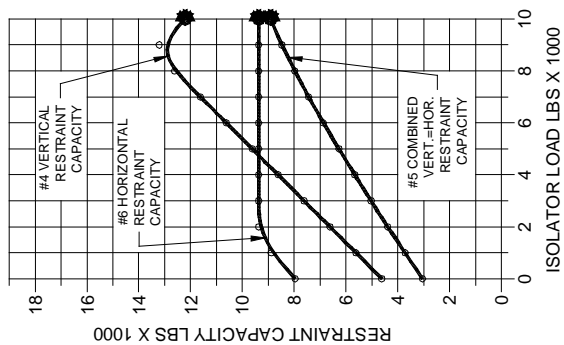

FIGURE 3
- 4.) THE HORIZONTAL RESTRAINT CAPACITY @ THE LOAD DETERMINED IN STEP 1 IS READ FROM CURVE #3 (FIG. 2) OR CURVE #6 (FIG. 3) AND PLOTTED ON THE HORIZONTAL AXIS OF FIGURE 1.
- 5.) THE COMBINED RESTRAINT CAPACITY IS THE POINT WHERE VERTICAL & HORIZONTAL CAPACITIES ARE EQUAL. THE COMBINED RESTRAINT CAPACITY @ THE LOAD DETERMINED IN STEP 1 IS READ FROM CURVE #2 (FIG. 2) OR CURVE #5 (FIG. 3). DRAW A HORIZONTAL LINE FROM THIS VALUE ON THE VERTICAL AXIS, AND A VERTICAL LINE FROM THIS VALUE ON THE HORIZONTAL AXIS. THE INTERSECTION POINT IS THE COMBINED CAPACITY POINT FOR THE GIVEN APPLICATION.